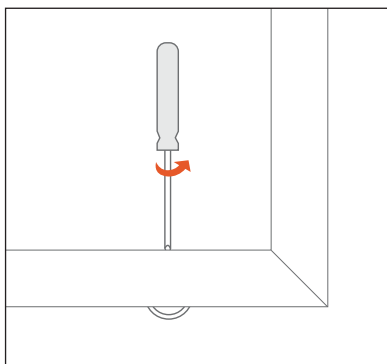

fig. 25
- Using a #1 Phillips screwdriver, turn the adjustment screws counterclockwise to retract the rollers on the top and bottom rail of the screen, stop when you feel resistance. (fig. 25)
- With the adjustment screw facing the interior lift the door into the top screen track far enough to provide clearance for the bottom of the door to swing over the bottom of the track and position it on the screen roller track (fig. 25). You may need to compress the bottom rollers up to properly position the rollers onto the track.